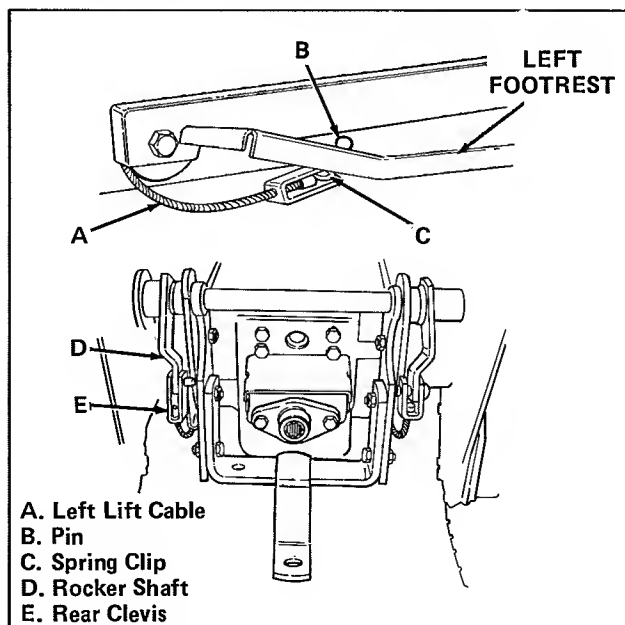

Figure 3. Attach Lift Cables to Rear Lift
3. Push rear lift control on tractor forward to fully lower rocker shaft (item D, figure 3).
7. Remove spring clips and pins to detach rear clevis (item E, figure 3) of both lift cables from rocker shaft (item D).